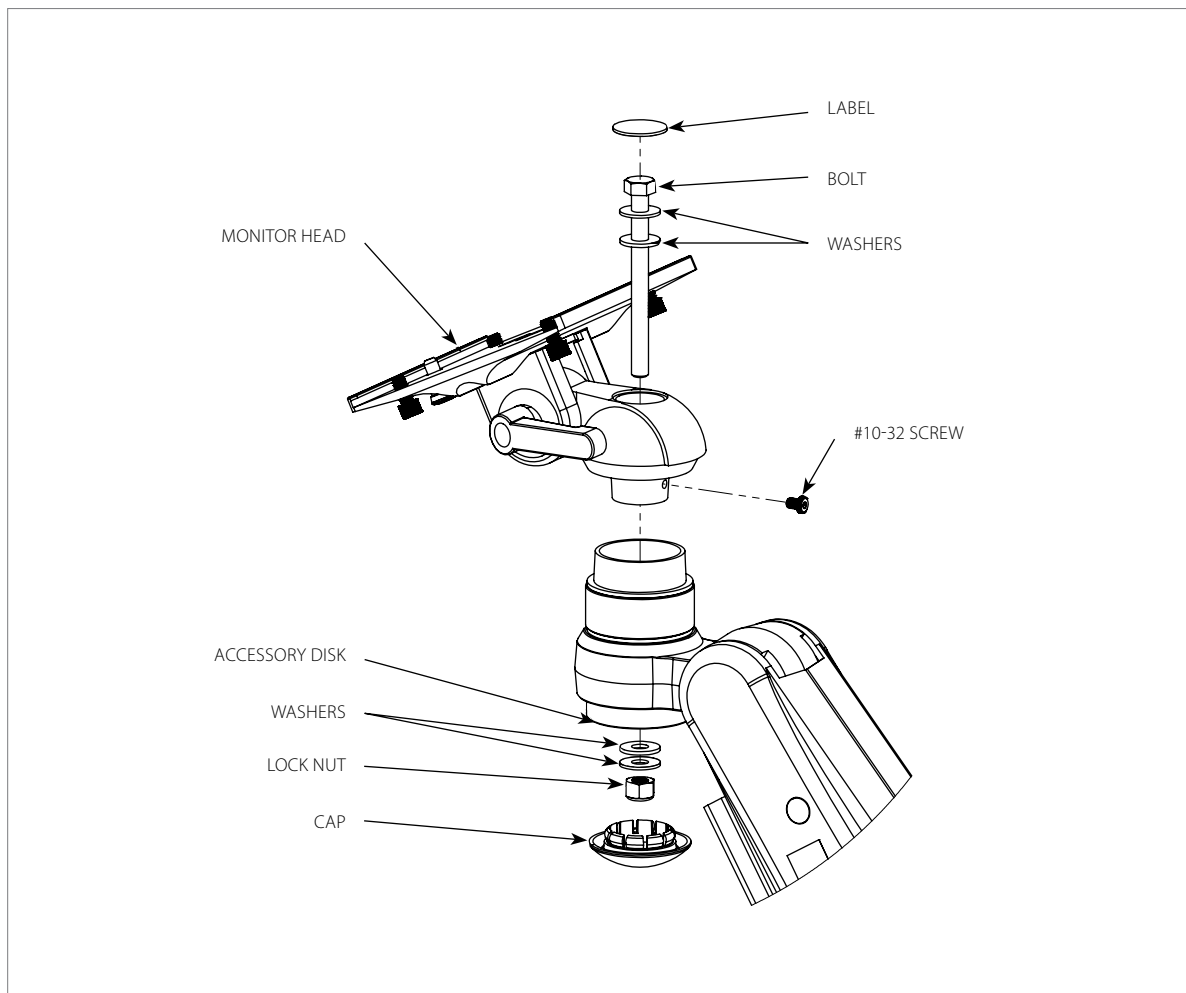

Figure 1
2. To allow the **MONITOR HEAD** and **ACCESSORY DISK** to rotate independently, remove the **#10-32 SCREW** from the **MONITOR HEAD** (Figure 1). Reinstall the **MONITOR HEAD** assembly using the 1/2" Socket Wrench.